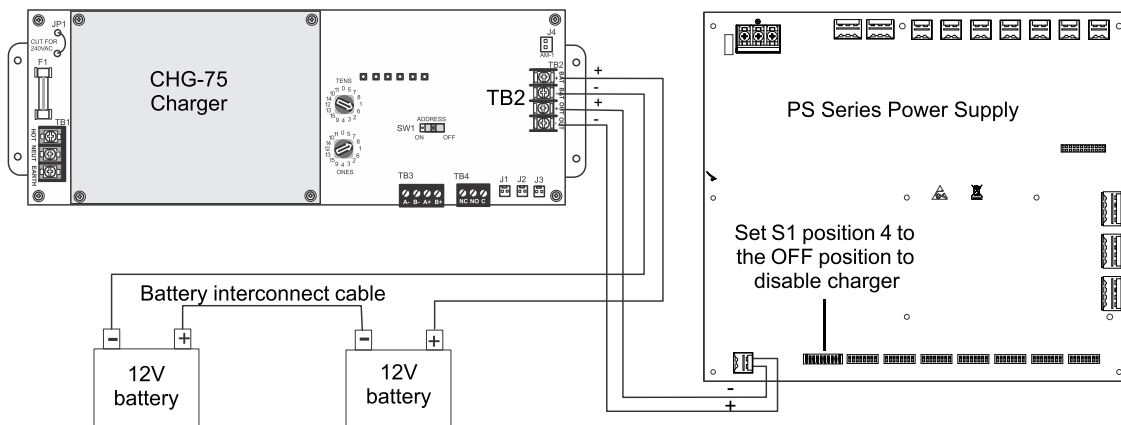

Figure 2.10 Connecting the Power Supply to a CHG-75 Charger
- Connect the battery cables between TB15 (+ and -) on the FL-PS and the CHG-75 charger output circuit (TB2: Out+ and Out-) as shown in Figure 2.10. Be certain to observe polarity.